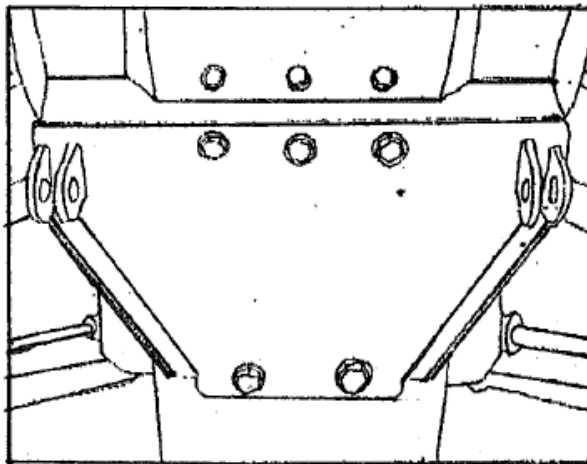

Figure 4
1. Attach the plow mount to the underside of the Ranger using the front three holes found on the Plow Mount and the corresponding holes in your Ranger. Use three of the 3/8" x 1 1/4" Hex Bolts, Flat Washers, Lock Washers and Nylock nuts. **See Figure 4. Note: Plow mount image may differ slightly from image below.**